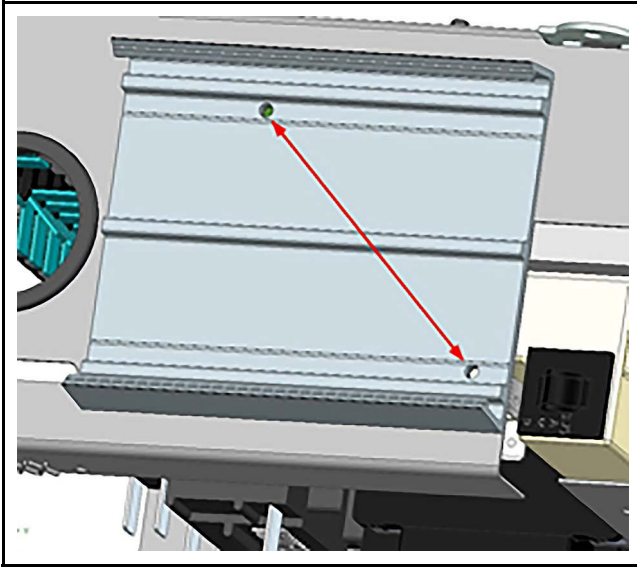

Fig. 4 Location of Drilled Holes on the Mounting Base (SM Control Box Top View)
- d. Drill 1/8" holes in the mounting base. Refer to Fig. 4.